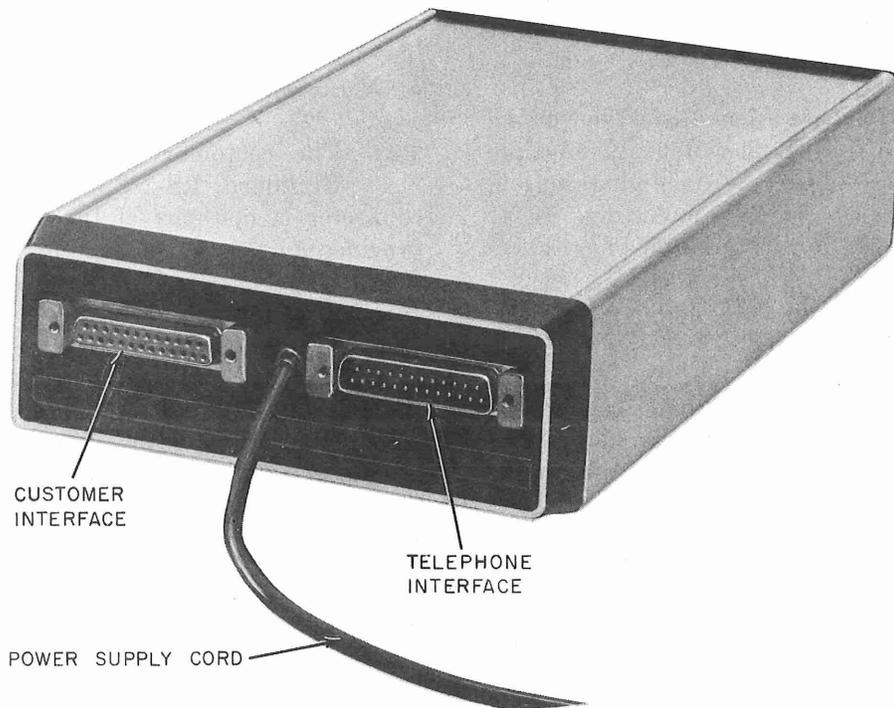

Fig. 6—Data Set 103J-L1/2—Rear View
3.02 The customer interface conforms to EIA Standard RS-232-C. The 25-pin female connector is not part of the data set card but is provided on the mounting (Fig. 6). The connector pin designations and functions are listed in Table A.
3.04 A plug is provided on the mounting for all telephone company connections (Fig. 6). The plug pin designations and functions are itemized in Table B.